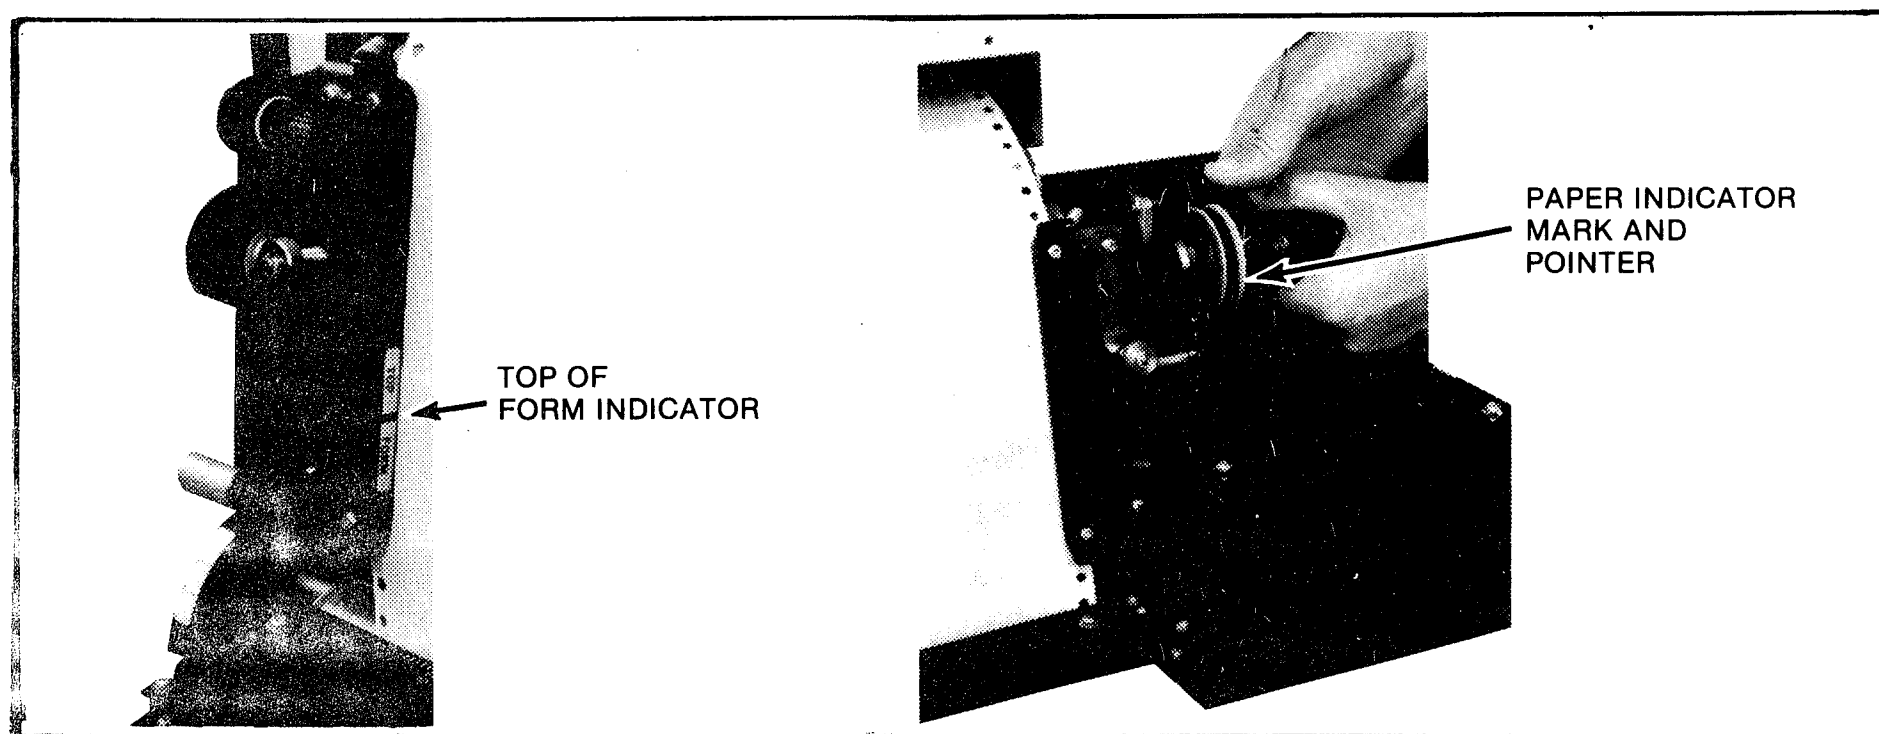

Figure 6. Aligning First Print Line Position
- With Forms Thickness Adjustment still in LOAD position, turn Vertical Forms Control knob so that first print line position is aligned with top-of-form indicator on tractors (Figure 6).